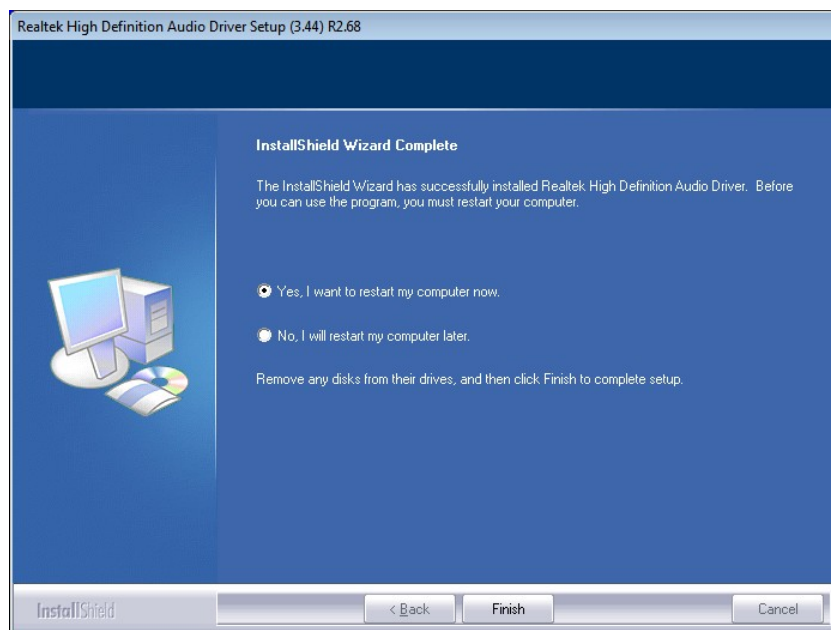

Figure 6-21: Restart the Computer
Step 8: After the driver installation process is complete, a confirmation screen appears (Figure 6-21).